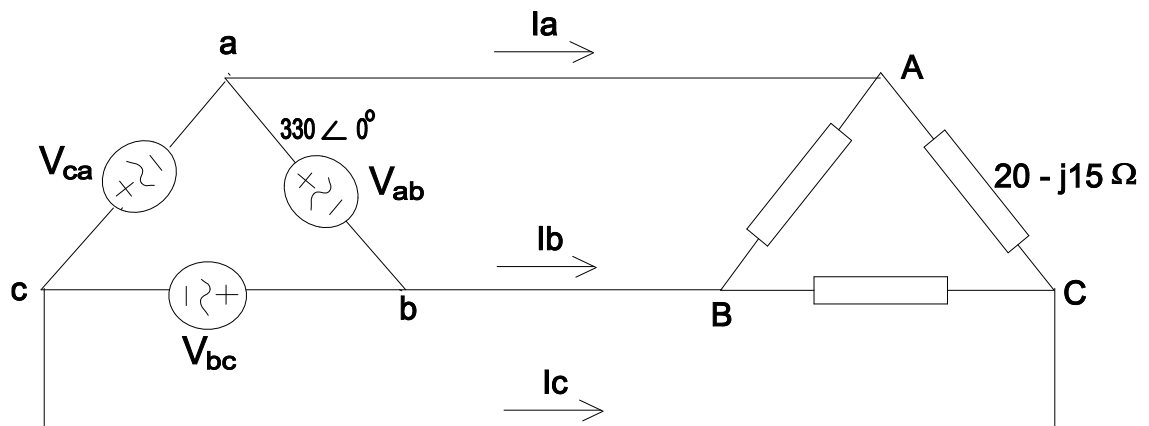

Figure 3
- a. A balanced Delta (Δ) - connected load with an impedance of $20 - j15 \Omega$ is supplied by a delta (Δ) connected, positive sequence generator with a line voltage $V_{ab} = 330 \angle 0^\circ \text{ V}$ as shown in Figure 3 below. Calculate: